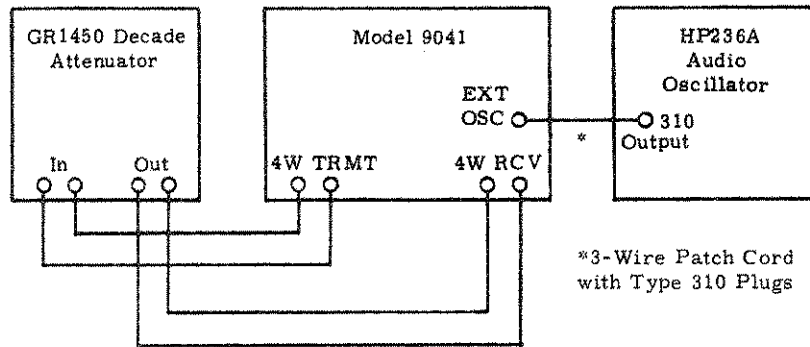

Figure 3-5. Trans-Hybrid Loss Correction Accuracy Check, Test Setup
3.10 For this check, the THL dB gain control is checked against an external reference attenuator. The HP236A Audio Oscillator is used as a test signal. Figure 3-5 shows the test connections.